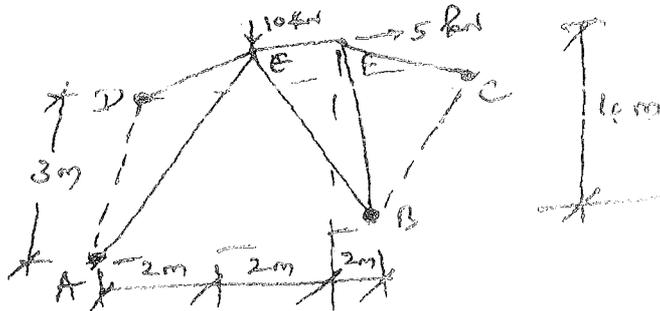

Fig. Q. 12 (a)
12. (a) Analyse the space truss shown in Fig. Q. 12 (a) using tension coefficient method. The coordinates of joints are A (0, 0, 0), B (6, 0, 0), C (6, 3, 0), D (0, 3, 0), E (2, 1.5, 4) and F (4, 1.5, 4). Determine the forces in the members of the truss.